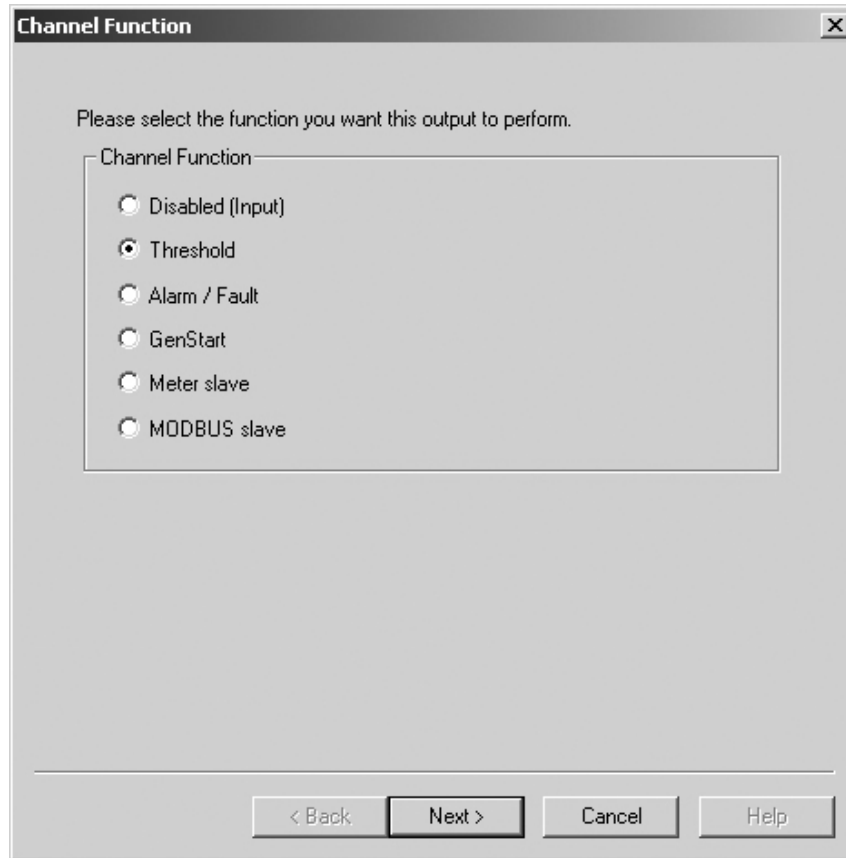

Figure 3. Select Threshold Function
The Relay Driver Setup screen, shown in Figure 3 is the starting point from which each channel is setup. The upper left area of the window displays the four channels and the corresponding configurations.
2. The **Channel Function** window appears as shown in Figure 3. A list of Functions from which to choose is provided. By default, the *Disabled* function is selected.